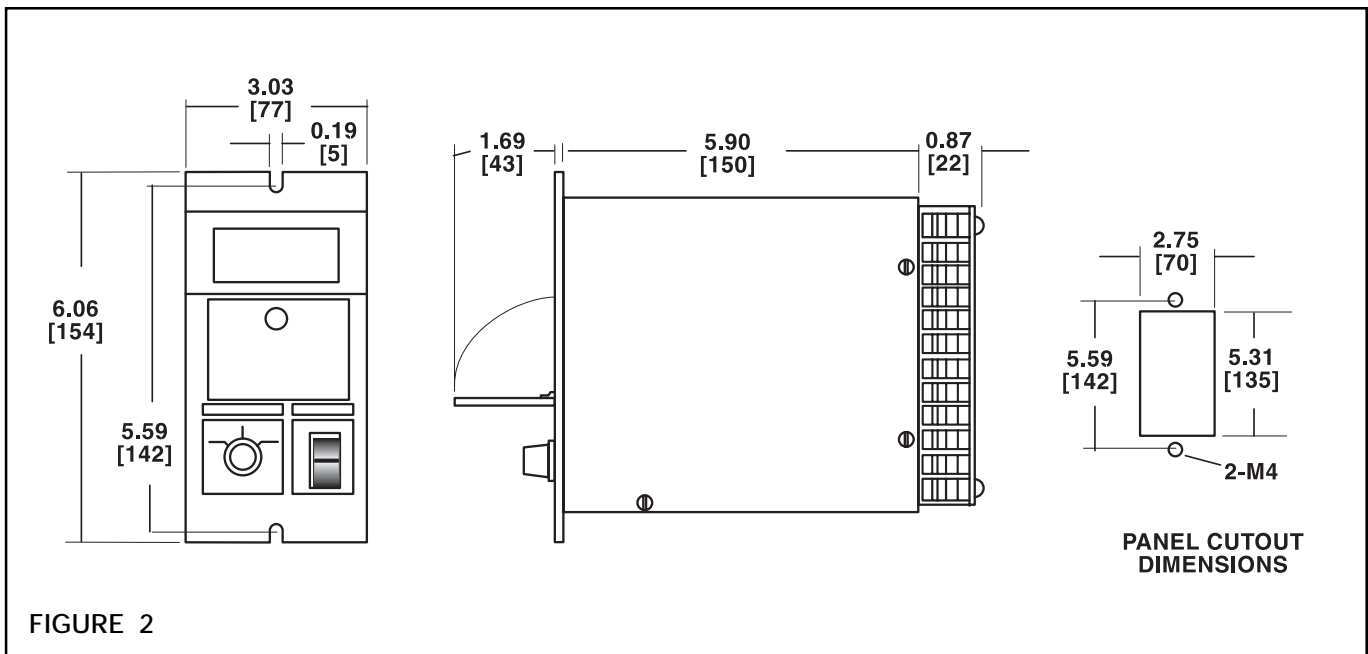

FIGURE 2
2. TM210 may be panel mounted (See Fig. 2)